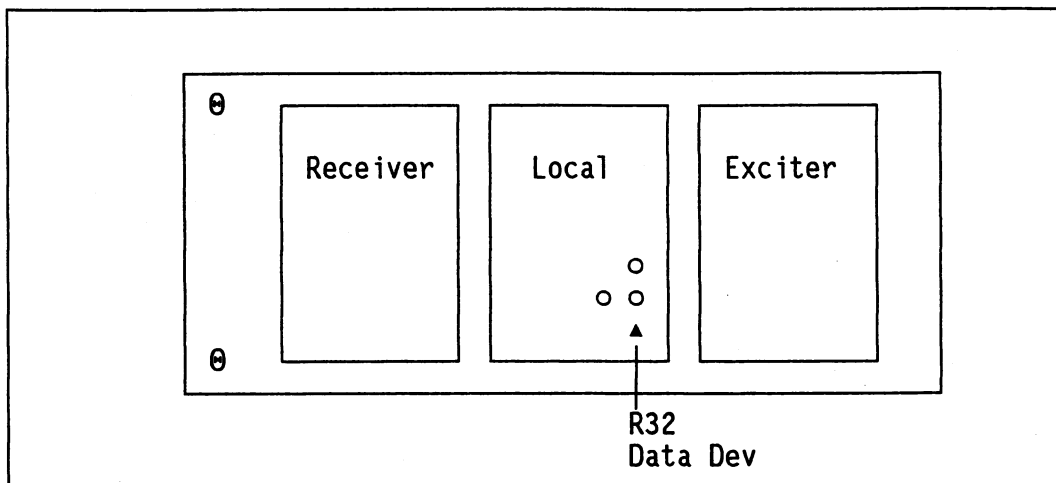

Figure 4-26. Uniden MRS802 Internal Sub-Chassis
- []8. Turn the DATA pot R32 on the Local Oscillator about 1/4 turn clockwise to get more adjustment range on the LTR transmit data deviation. Refer to Figure 4-26 to locate R32.